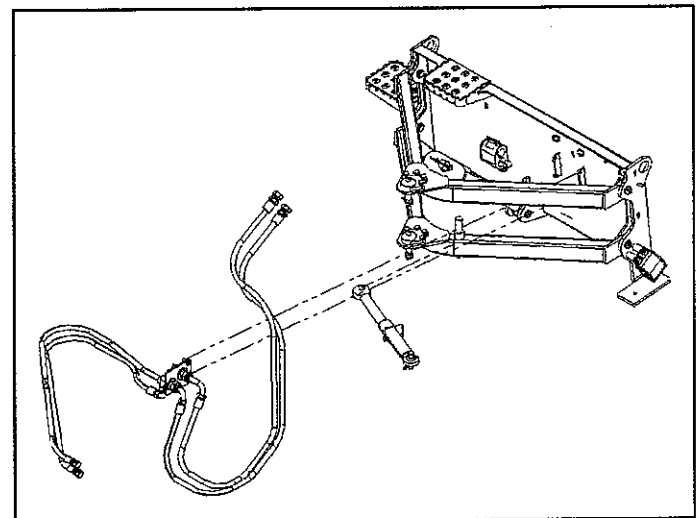

Figure 2
6. Attach hoses to bulkhead fittings (Figure 2).
7. Install manual angle link to pin on lower quick attach arm and to brush head(Figure 2).